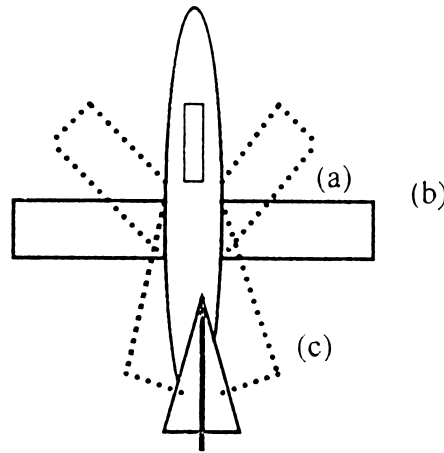

Fig. P8.90
**8.90** NASA is developing a swing-wing airplane called the Bird of Prey [37]. As shown in Fig. P8.90, the wings pivot like a pocketknife blade: forward (a), straight (b), or backward (c). Discuss a possible advantage for each of these wing positions. If you can't think of any, read the article [37] and report to the class.